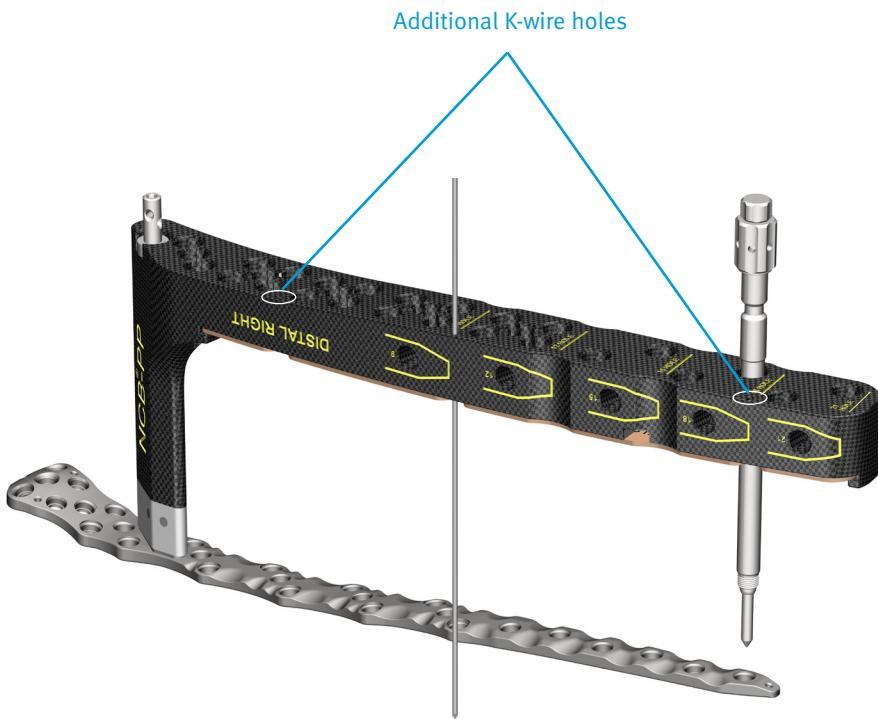

Fig. 6
2. Make a stab incision at the most proximal plate hole. Insert the *NCB* Trocar (REF 02.00024.062) and Stabilization Bolt (REF 02.00024.074) into the *NCB* Periprosthetic Plate (**Fig. 6**). Use the three K-wire holes to hold the targeting device in place, ensuring that the targeting device does not sag. Depending on the patient anatomy, these K-wires may rest on the anterior aspect of the femur when the plate is centered on the bone.